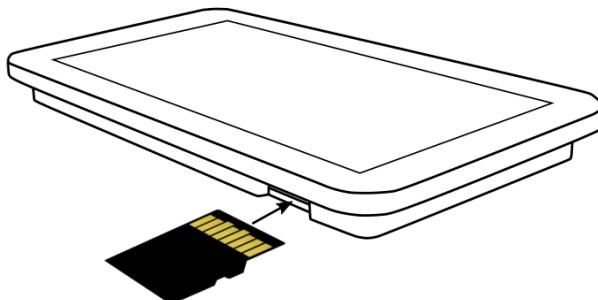

Figure 22. Inserting a memory card into the regulator panel
- Carefully insert the memory card into the appropriate slot on the panel – see Fig. 22